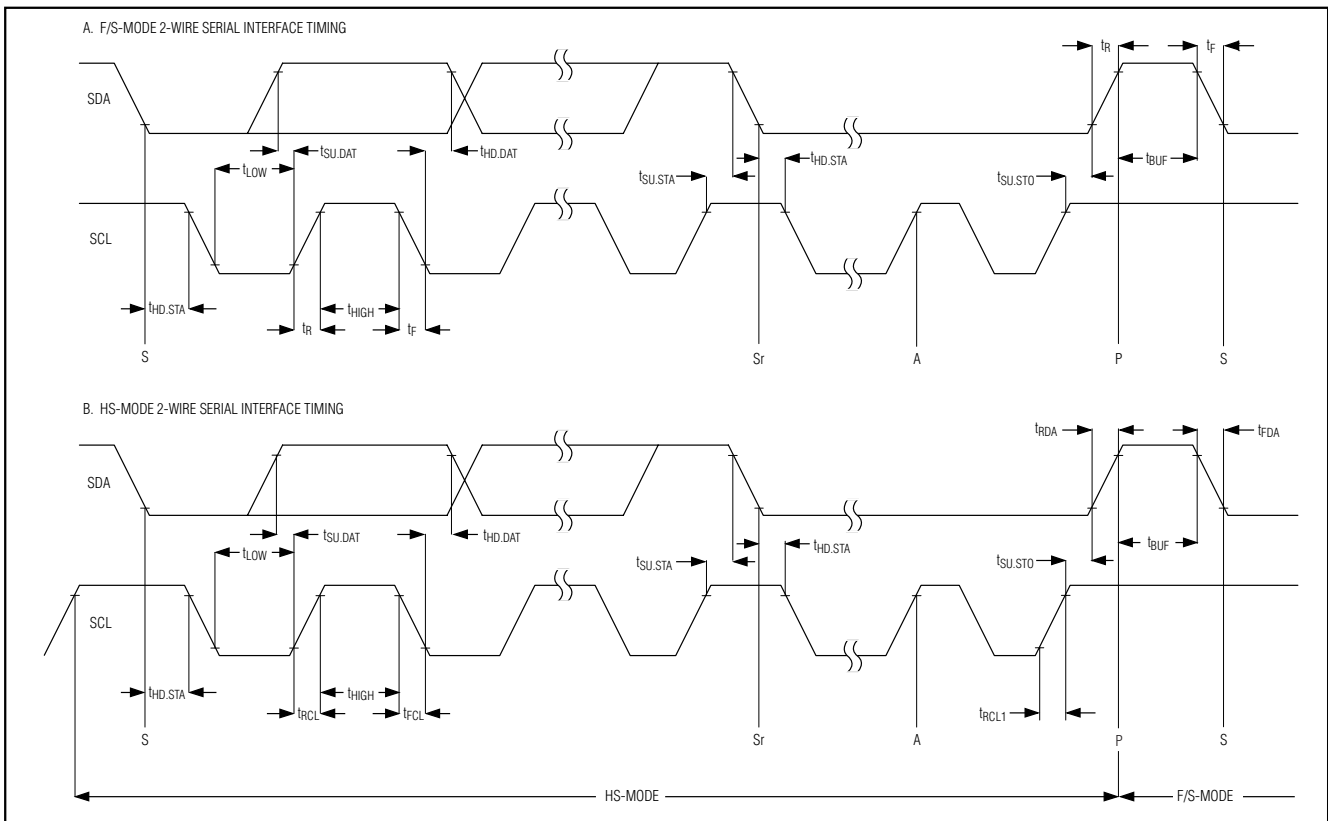

Figure 1. 2-Wire Serial Interface Timing
### TIMING CHARACTERISTICS (Figure 1)
## TIMING CHARACTERISTICS (Figure 1) (continued)
**Note 12:** A master device must provide a data hold time for SDA (referred to VIL of SCL) in order to bridge the undefined region of SCL's falling edge (see Figure 1).
up to 22.2ksps. The MAX1136–MAX1139 must operate in high-speed mode (HS-mode) to achieve conversion rates up to 94.4ksps. Figure 1 shows the bus timing for the MAX1136–MAX1139's 2-wire interface.